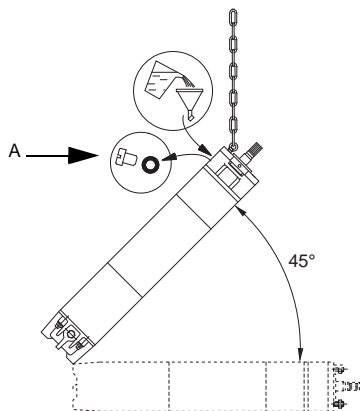

Fig. 3 Motor position during filling – MMS
1. Place the motor at a 45 ° angle with the top of the motor upwards, see fig. 3.